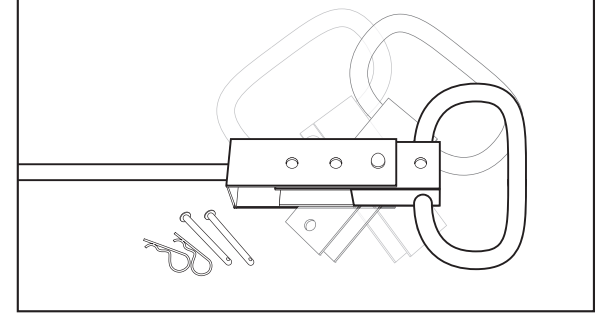

Fig. 1
3. The second cotter pin is used to attach the handle to the trailer hitch, as shown in Fig. 1.